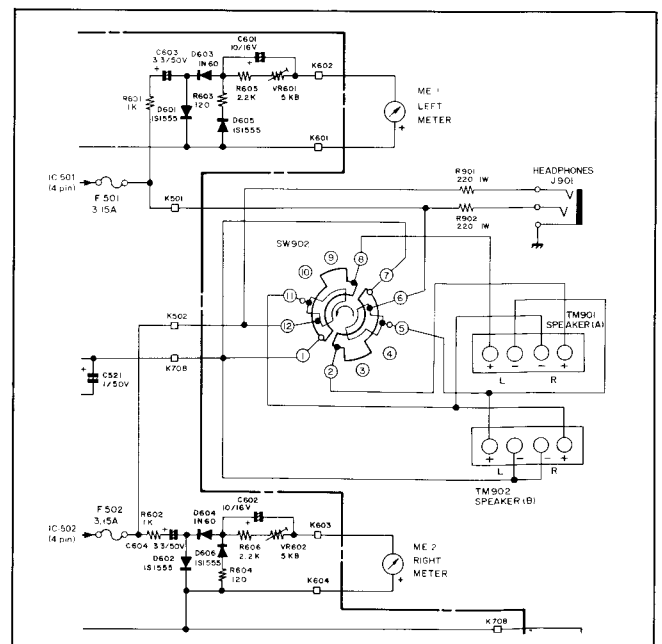

Figure 7
■ METER CIRCUIT (See Figure 7)